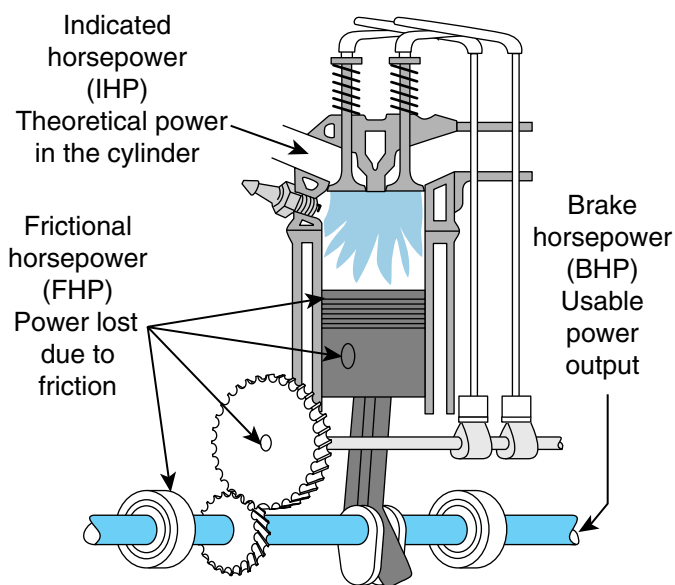

FIGURE 10.94 Frictional horsepower is the difference between brake horsepower and indicated horsepower.
- *Frictional horsepower (FHP)* is the power lost due to friction. It is the difference between brake horsepower and indicated horsepower (**Figure 10.94**). It considers the power need to compress